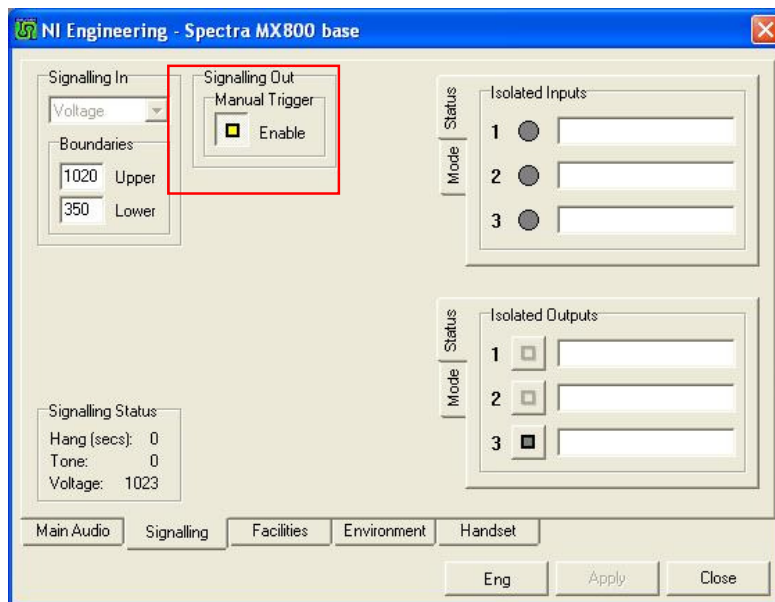

Figure 9. NI Engineering – Signalling tab, Manual Trigger.
- 19.3. On the Signalling tab, select 'Manual Trigger' (see **Figure 9** overleaf).